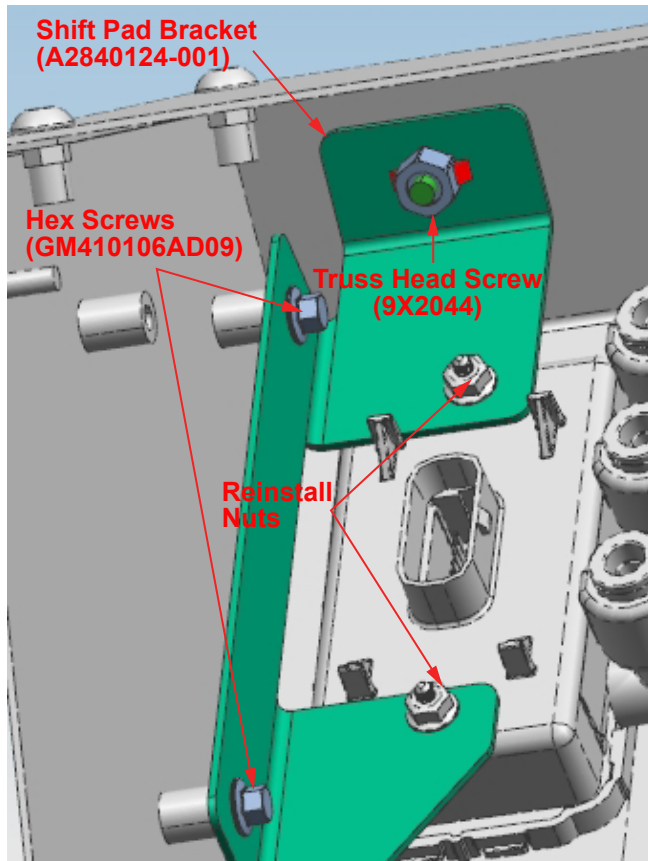

Figure 5
7. Using the (2) nuts that were set aside in step 5, install (A284012-001) bracket onto the shift pad inside cover and tighten to 13 in-lb of torque (see Figure 5).
8. Using (2) (GM410106AD09) hex screws provided in the service kit, secure the (A284012-001) bracket onto the shift pad inside cover and tighten to 75 in-lb of torque (see *Figure 5*).
9. Install the (9X2044) truss head screw, provided with the service kit, through the hole drilled in step 4 and tighten to 75 in-lb of torque (see *Figure 5*).